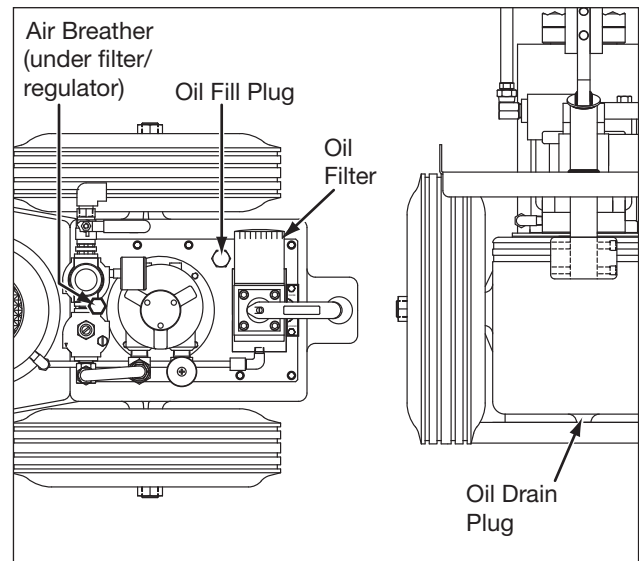

Figure 6, Oil Change
6.3 Changing the Oil (See Figure 6)